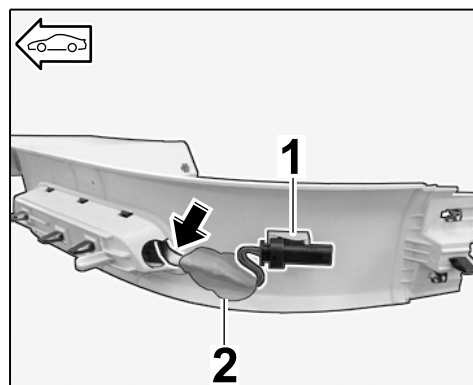

Figure 13
- 2.3.3 Clean the bonding surfaces of the connector and flat conductor path (see ⇒ *Figure 13*) on the underside of the inner door sill trim using isopropanol to remove any grease and dust.
Pull protective film off the Velcro strip on the connector ⇒ *Figure 13 -1-* and affix connector at the position shown on the inner door sill trim.
Secure the flat conductor path ⇒ *Figure 13 -arrow-* to the inner door sill trim using two adhesive pads ⇒ *Figure 13 -2-*.